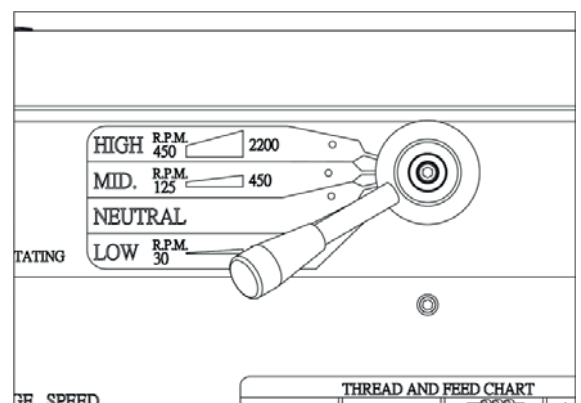

Fig. 23 Spindle range lever in low
3. Move the spindle range lever to low speed range. (Figure 23)